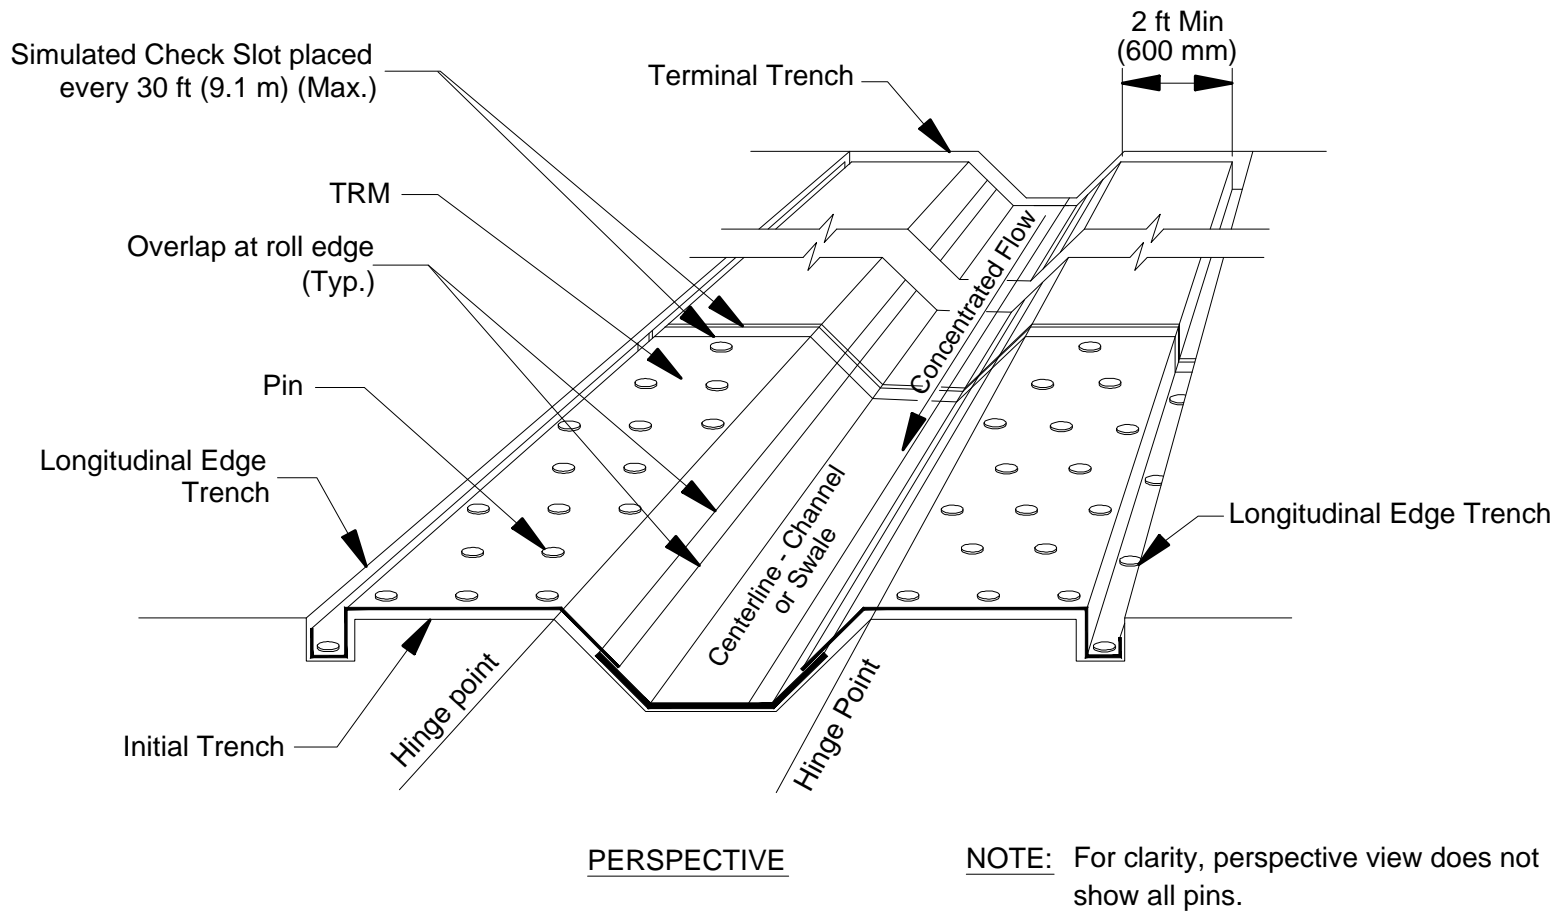

FIGURE 1: OVERVIEW OF
- Figure 1 shows general installation layout and details for TRM in storm water swales.